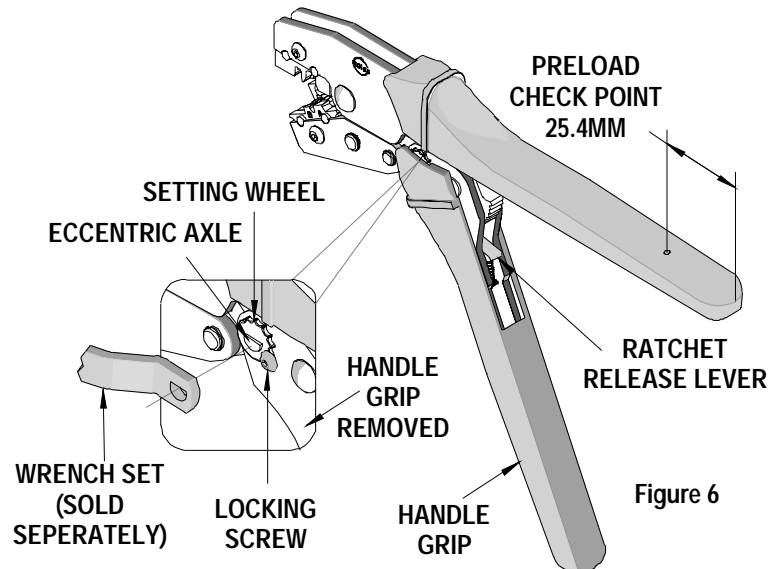

Figure 6
3. Make certain all pins; pivot points and bearing surfaces are protected with a thin coat of high quality machine oil. Do not oil excessively. This tool was engineered for durability but like any fine piece of equipment it needs cleaning and lubrication for a maximum service life of trouble free crimping. Light oil such as 30 weight automotive oil used at the oil points shown in Figure 6, every 5,000 crimps or 3 months, will significantly enhance the tool life.
Should this tool ever become stuck or jammed in a partially closed position, **Do Not force the handles open or closed.** The tool will open easily by pressing the ratchet release lever. See Figure 6.
## How To Adjust Tool Preload (See Figure 6)